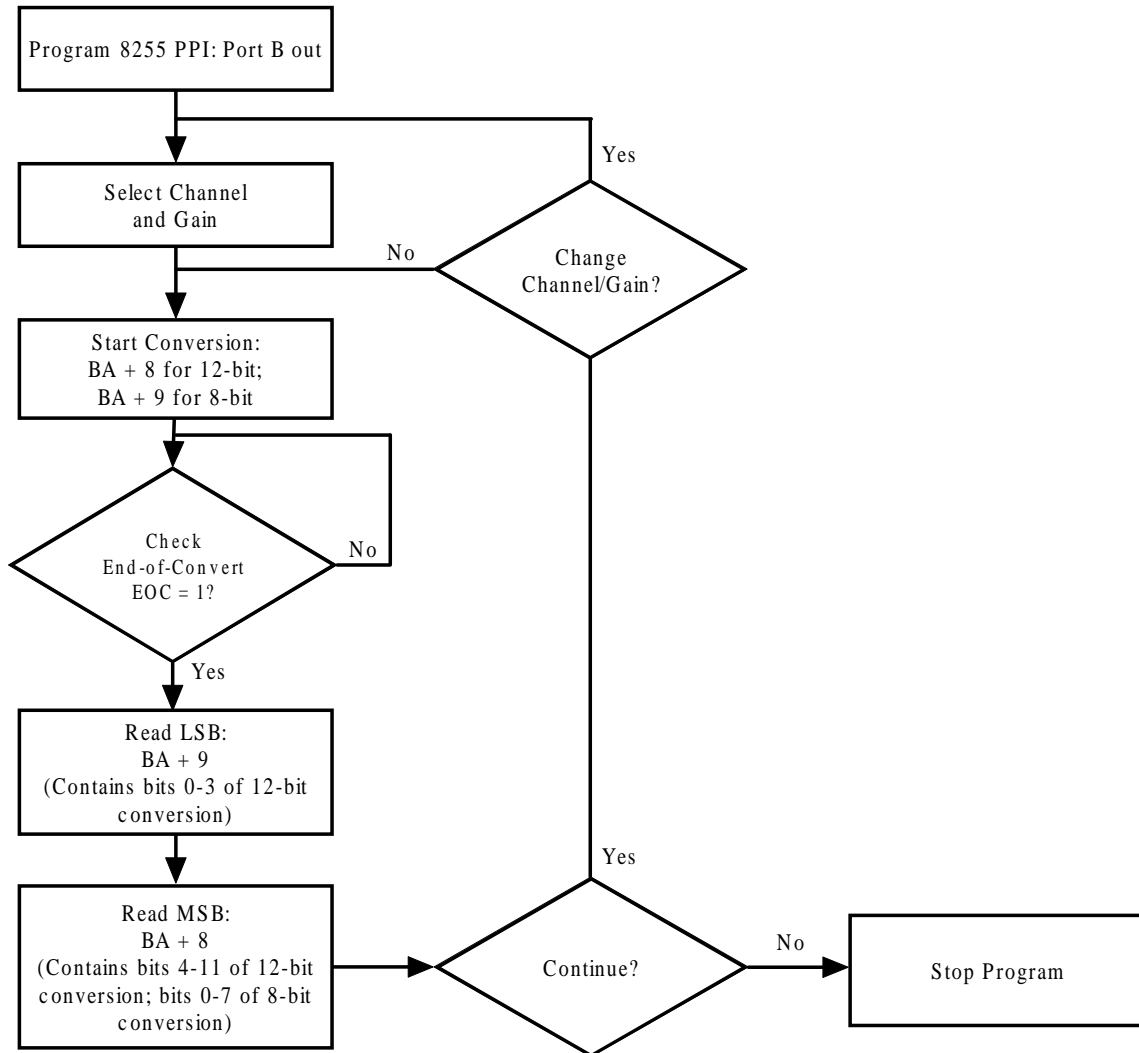

Fig. 4-3 — Single Conversion Flow Diagram
• Single Convert Flow Diagram (Figure 4-3)